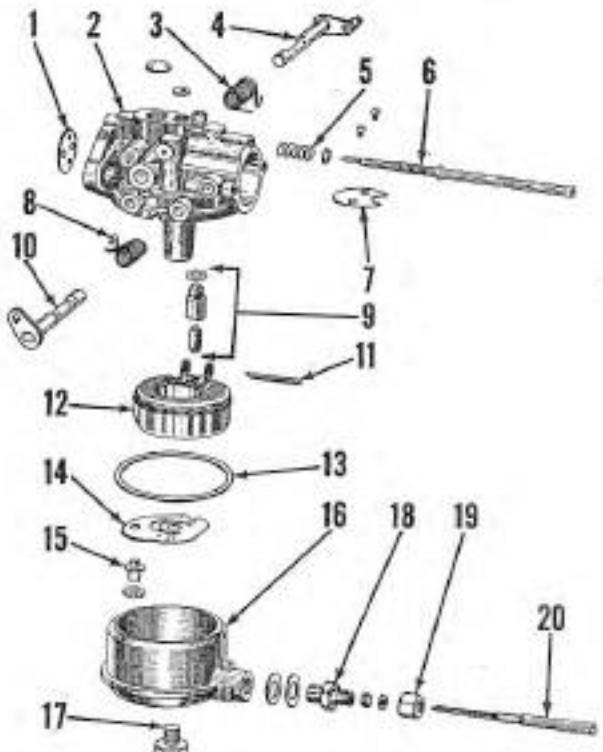

Fig. Mc20 — Exploded view of the N type Carter carburetor typical of the type used on some models.
Carter Model N: Refer to Fig. Mc20. Carburetors are provided with two mixture adjustment needles. The idle mixture needle (6) and high speed adjustment needle (20) should both be initially adjusted to approximately $\frac{1}{4}$ -turn open, then readjusted under load for best performance after motor is warm. When engine is at normal operating temperature and under load, high speed needle should be adjusted to lowest position which will allow satisfactory acceleration. Clockwise rotation of the needle screws